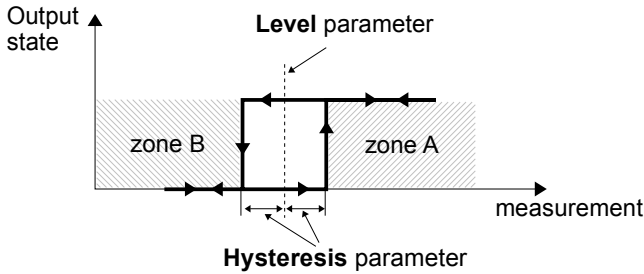

Fig. 7.86. One threshold control of the relay outputs
- **Mode** - this parameter allows the user to select the method of operation of the output, the **Mode** parameter has the following options (see **Fig. 7.86** and **Fig. 7.87**):
#### **Levels** parameter block (see **Fig. 7.86**, **Fig. 7.87** and **Fig. 7.88**)
- **Hysteresis** – by defining this parameter the user can move the level for changes in the output state (see **Fig. 7.86** and **Fig. 7.87**),